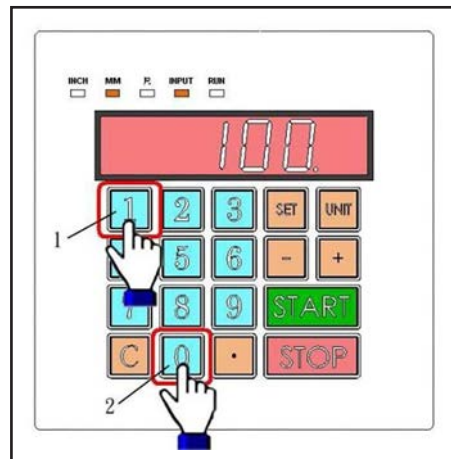

**Figure 37.** Entering correct value.
2. Use numerical keypad to enter the correct table elevation value (100mm) (see **Figure 37**).